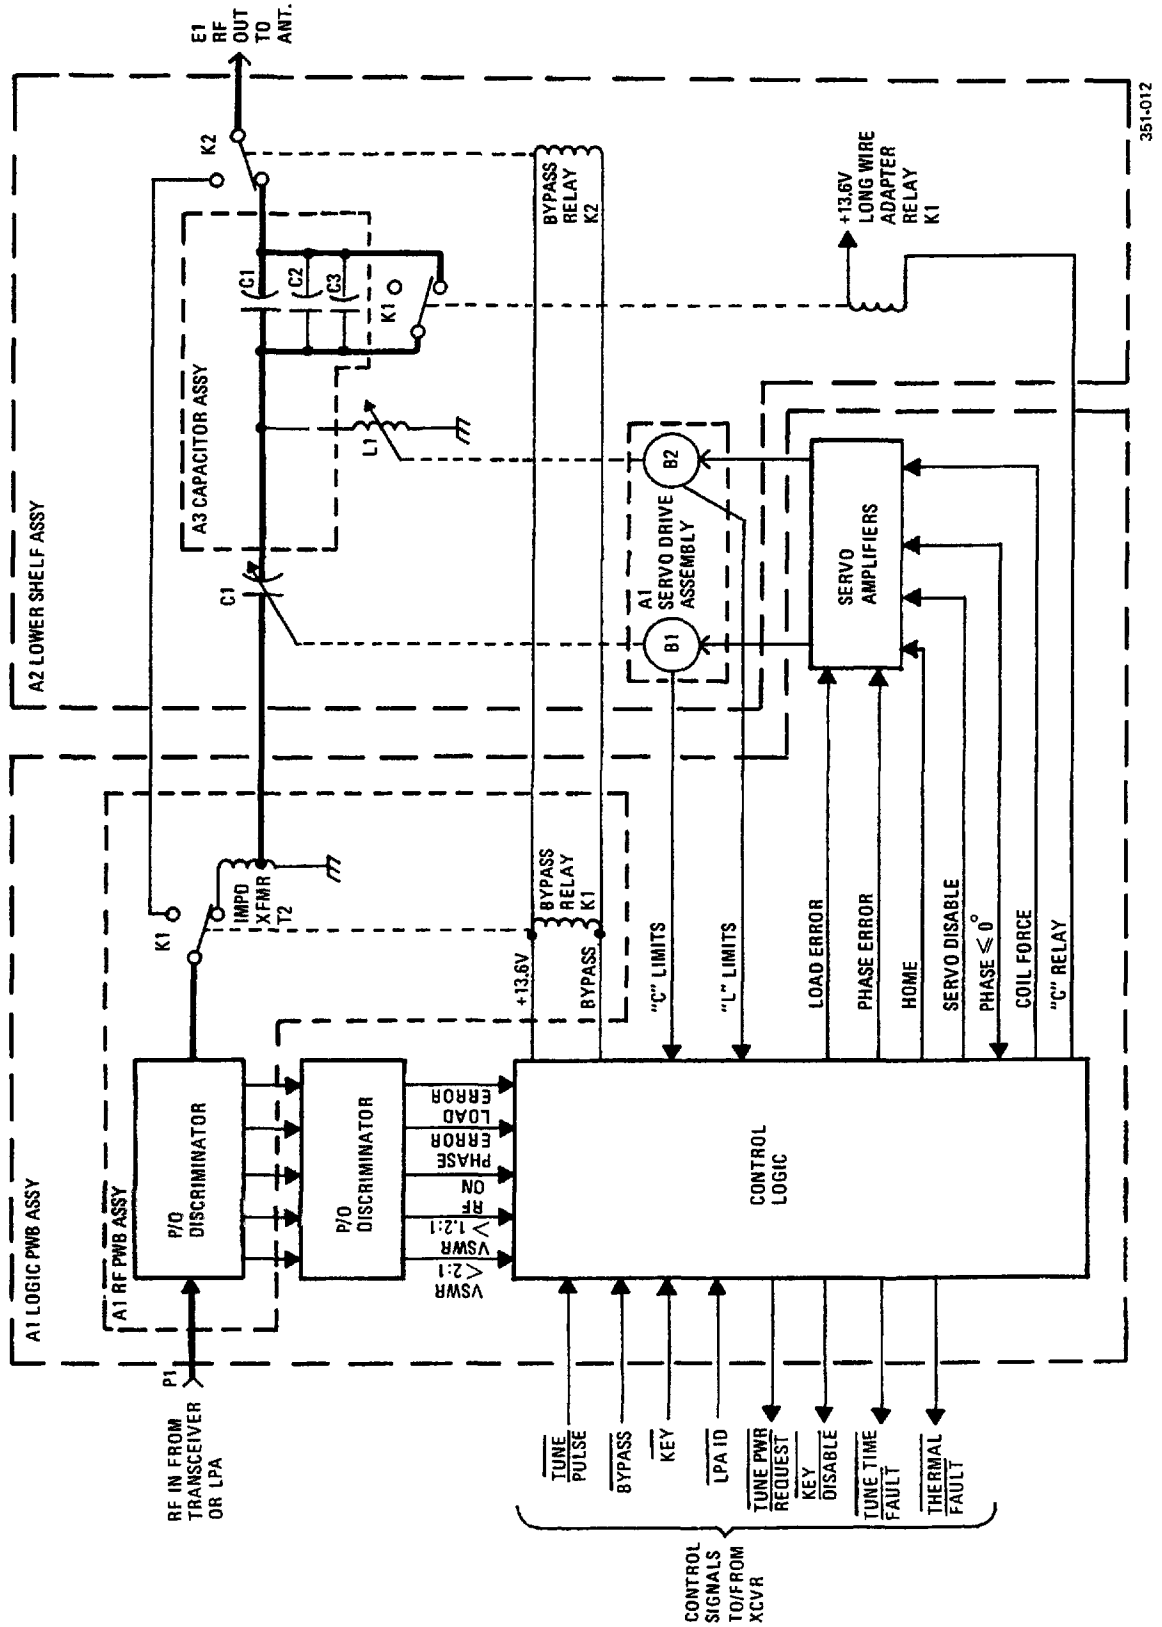

Figure 1-2. Simplified Functional Diagram
a. Tuning. Figure 1-2 is a simplified block diagram of the 100/500 Watt Antenna Coupler. The rf signal path is shown by a heavy line. In the rf signal path are: a Discriminator Sampling Circuit, which samples voltages and current on the rf line; an Impedance Matching Transformer A1T2, which matches the coupler operating impedance of 12.5 ohms to the standard 50 ohm transmission line; Main Tuning Capacitor A2C1; Main Tuning Inductor A2L1; and Long Wire Antenna Adapter Capacitors A2A3C1, A2A3C2 and A2A3C3, which are placed in the circuit when needed to tune a long wire antenna. Relay A2K1 inserts or removes these capacitors. Relays A1A1K1 and A2K2 provide the means for bypassing the tuning elements in the rf path to provide an rf path through the 100/500 Watt Antenna Coupler when it is not tuned to a specific transmitting frequency. This allows reception to take place when the 100/500 Watt Antenna Coupler is untuned. Automatic tuning is initiated when the 100/500 Watt Antenna Coupler receives a TUNE PULSE from the 100 Watt Transceiver. The control logic circuits initiate a sequence of control signals that cause the servo system to first drive the tuning elements, A2C1 and A2L1, to their home positions without rf power applied from the 100 Watt Transceiver. Then a TUNE POWER request is sent to the 100 Watt Transceiver and A2C1 and A2L1 are tuned using a low power rf tuning signal supplied by the 100 Watt Transceiver. During tuning, the LOAD ERROR and PHASE ERROR are reduced until the voltage standing wave ratio (VSWR) on the rf line is less than 1.2:1. If this is not achieved on the first attempt, relay A2K1 energizes or deenergizes (depending on the position of the jumper on the Logic Control Board), placing the Long Wire Adapter Capacitors in the rf path or removing them, and the tuning cycle is repeated. When the VSWR is reduced below 1.2:1, the servo system is disabled and the keying circuit of the 100 Watt Transceiver is enabled so that full power transmitting can take place.